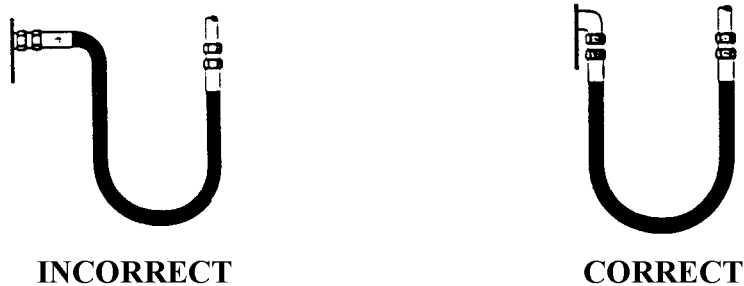

FIGURE 2—ELBOWS AND ADAPTERS
5.22 Elbows and Adapters—In special cases, use elbows or adapters to relieve hose strain (see Figure 2).